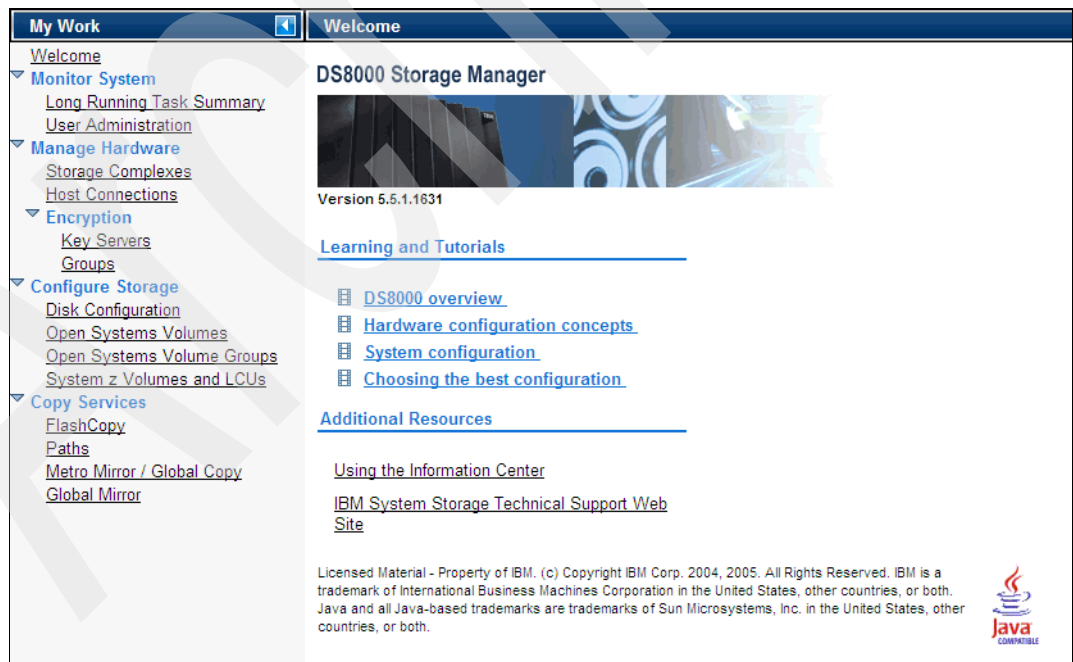

Figure 13-6 SSPC: DS GUI Welcome window
- You are presented with the DS GUI Welcome window for the selected disk system, as shown in Figure 13-6.